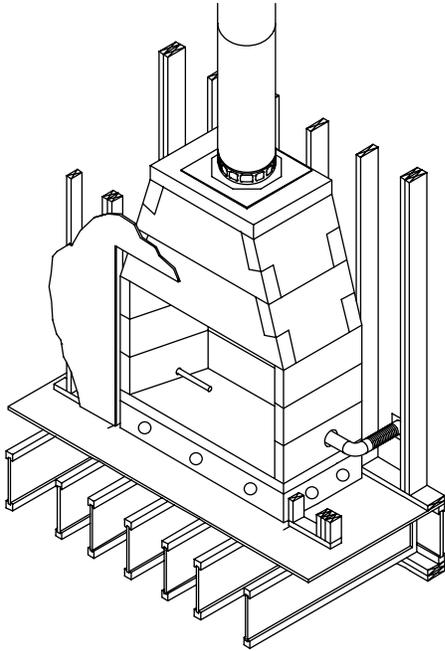

FIGURE 94
STANDARD Fire-Lite Series fireplaces are designed to be installed so that the rough front face of the firebox and smoke dome sit flush to the room face of the rough framing members that create the room wall finish. (Figure 94)
**Clearance to Drywall:** Drywall can be placed directly in contact with the front of the firebox and smoke dome. (Figure 94) Drywall can be hung on the framing members and pass across the face of the smoke dome and in contact with it. If necessary, the drywall can be affixed to the face of the Standard Fire-Lite Series fireplace with drywall screws, maximum length 1" - do not use nails.